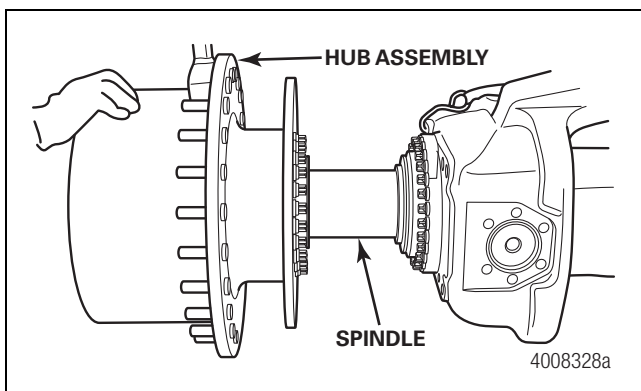

Figure 15.5
2. Use a lifting device to guide the hub assembly onto the spindle until seated. Use care to avoid damaging the hub seal during installation. Figure 15.5.